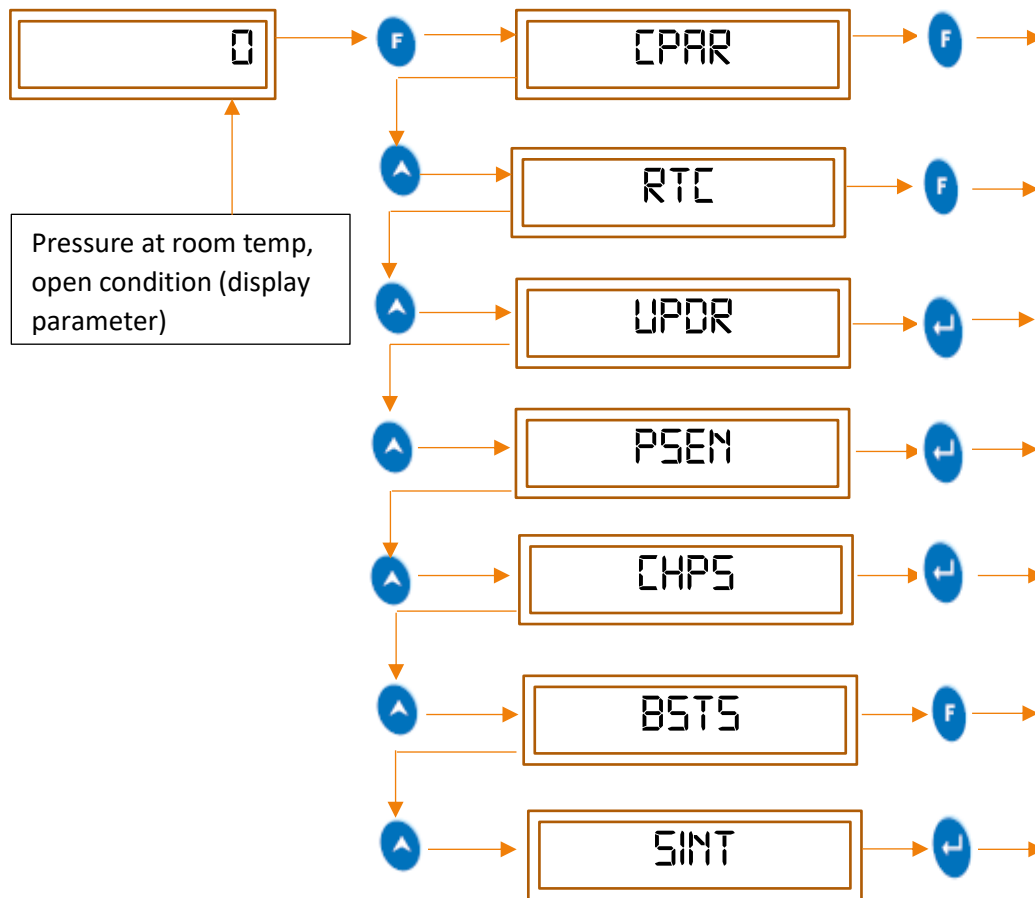

Figure 10 Main menu sequence
- Device can be Configured using front panel Keyboard, by entering the function key. User can enter the configuration as per their requirement. Figure 10 shows the main menu sequence.